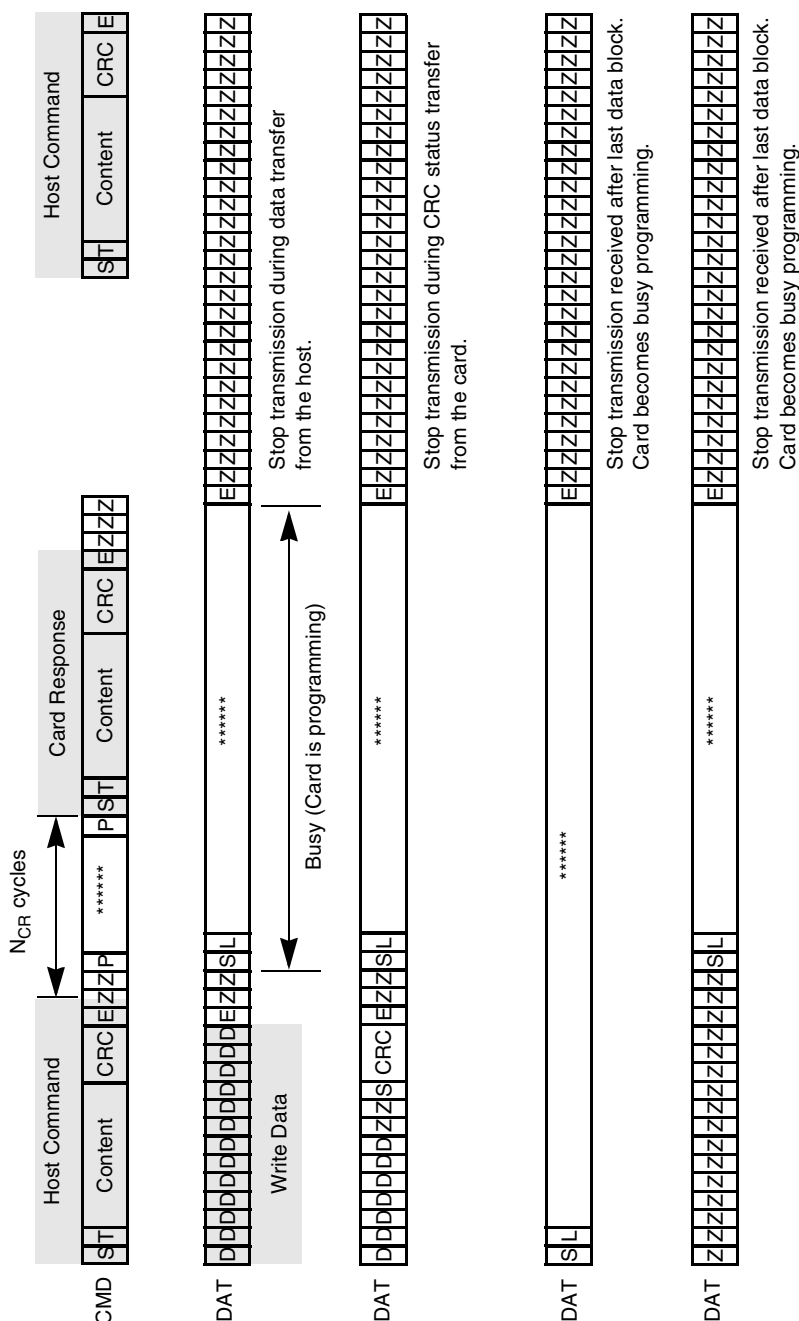

Figure 22. Stop Transmission During Different Scenarios
The card identification and card operation conditions timing are processed in open-drain mode. The card response to the host command starts after exactly  $N_{ID}$  clock cycles. For the card address assignment, SET\_RCA is also processed in the open-drain mode. The minimum delay between the host command and card response is  $N_{CR}$  clock cycles as illustrated in Figure 18. The symbols for Figure 18 through Figure 22 are defined in Table 22.
**Table 22. State Signal Parameters for Figure 18 through Figure 22**
The stop transmission command may occur when the card is in different states. Figure 22 shows the different scenarios on the bus.
Table 23. Timing Values for Figure 18 through Figure 22
**Table 23. Timing Values for Figure 18 through Figure 22 (Continued)**